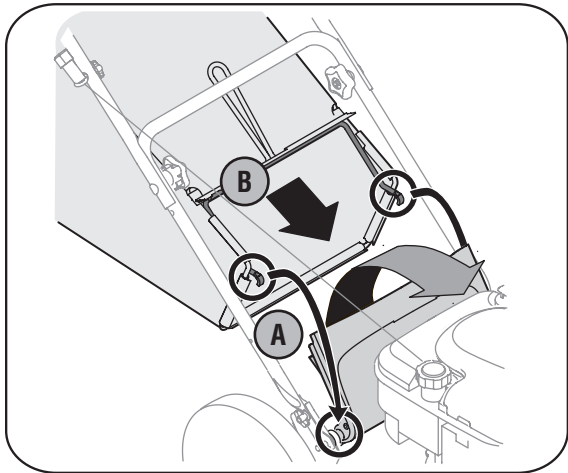

Figure 3-5
- b. Place grass catcher on the pivot rod. Let go of discharge door so that it rests on the grass catcher. See Figure 3-5.